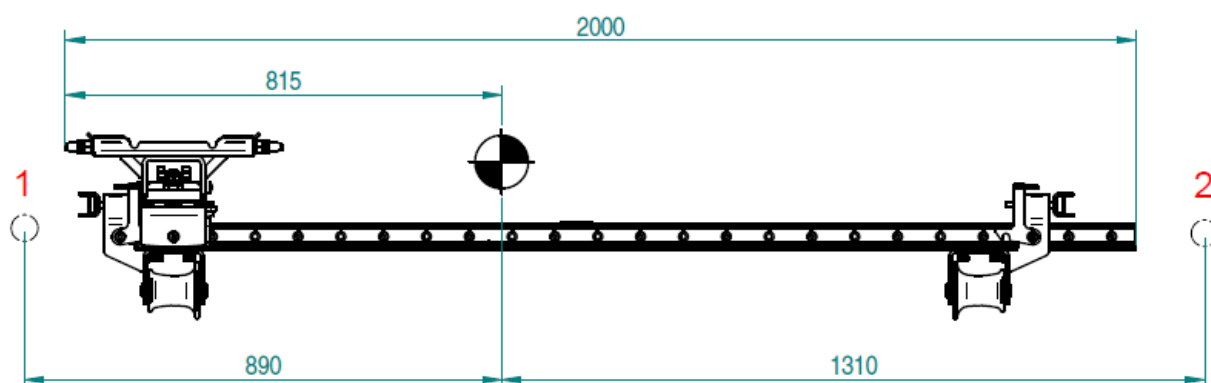

Figure 88.
1. Open the two rotation locking screws on the slide carriage, figure 88.